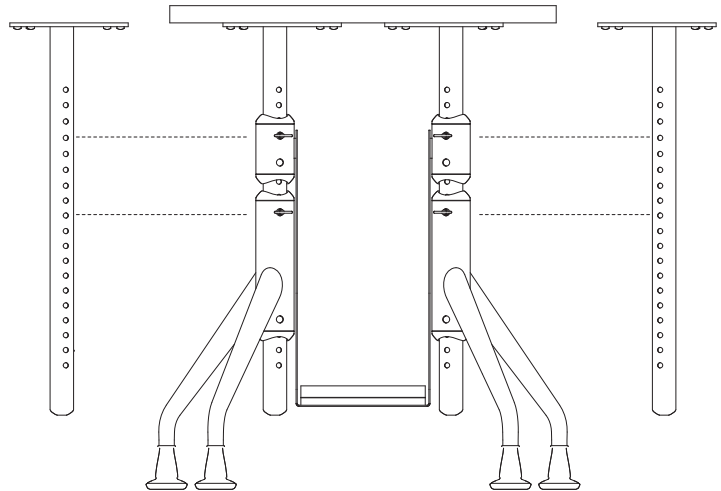

Figure 8
5. Check that both sides of the base are set to the desired monitor stand height. For monitor stand use with a standard 29" high table, the foot assembly pin should be in the ninth hole from the monitor support surface and the CPU holder pins would be located in the fourth hole from the monitor support surface. The height of these can vary 3" (holes) up or down from this position (Figure 8).